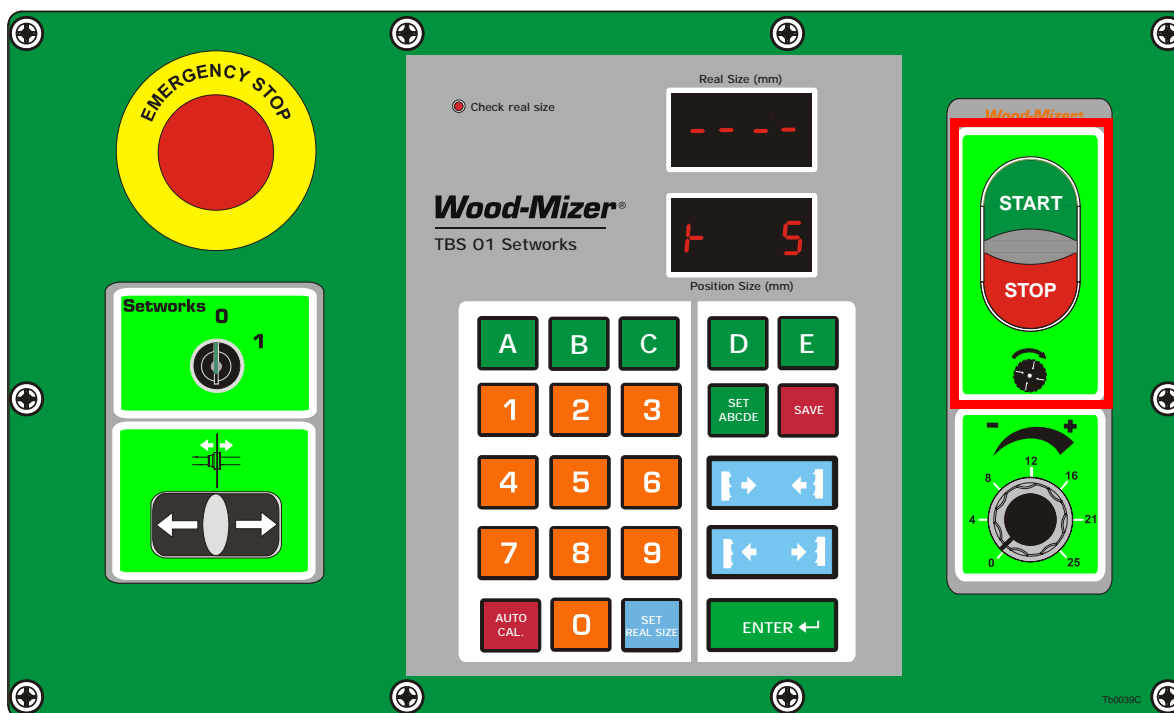

FIG. 3-6
**See Figure 3-6.** Start the blade motors. To do this, turn the switch to the “1” position and then push the START button on the control panel (see the figure below). The motor should start and the feed rollers should start.